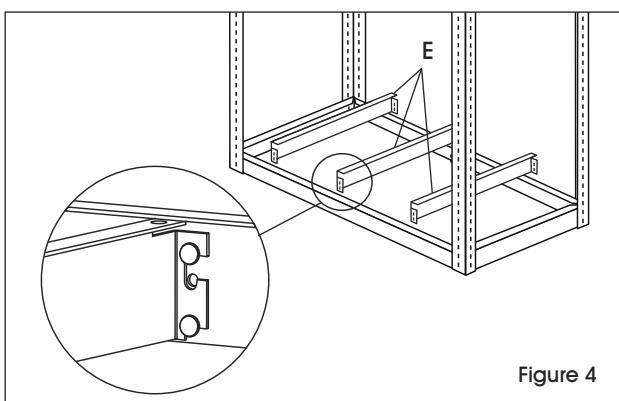

Figure 4
4. Attach shelf supports (E) at bottom level by placing the keyhole slots (on shelf supports) over the rivets (on front/back support) and tapping them into place. (See Figure 4)